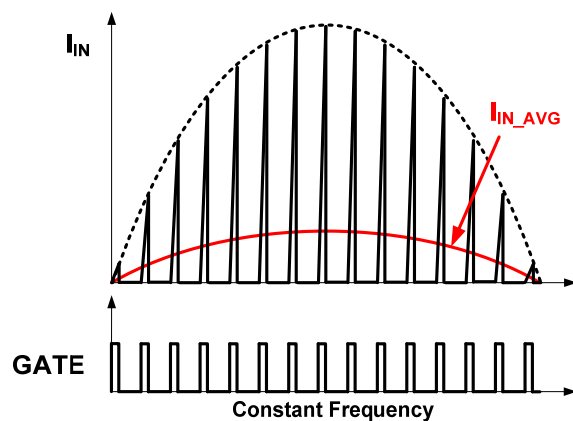

Figure 18. Input Current and Switching
In a conventional boost converter, Boundary Conduction Mode (BCM) is generally used to keep input current in phase with input voltage for Power Factor (PF) and Total Harmonic Distortion (THD). However, in flyback / buck boost topology, constant turn-on time and constant frequency in Discontinuous Conduction Mode (DCM) can implement high PF and low THD, as shown in Figure 18. Constant turn-on time is maintained by an internal error amplifier and a large external capacitor (typically  $>1 \mu\text{F}$ ) at the COMI pin. Constant frequency and DCM operation are managed by linear frequency control.